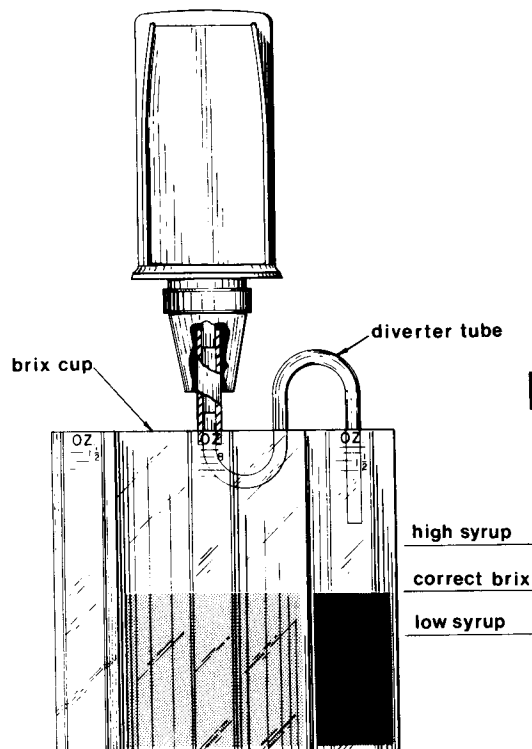

Fig. 6
- **Regulator Body Vent Hole CO2 Leak Check. (FIGURE 6)**